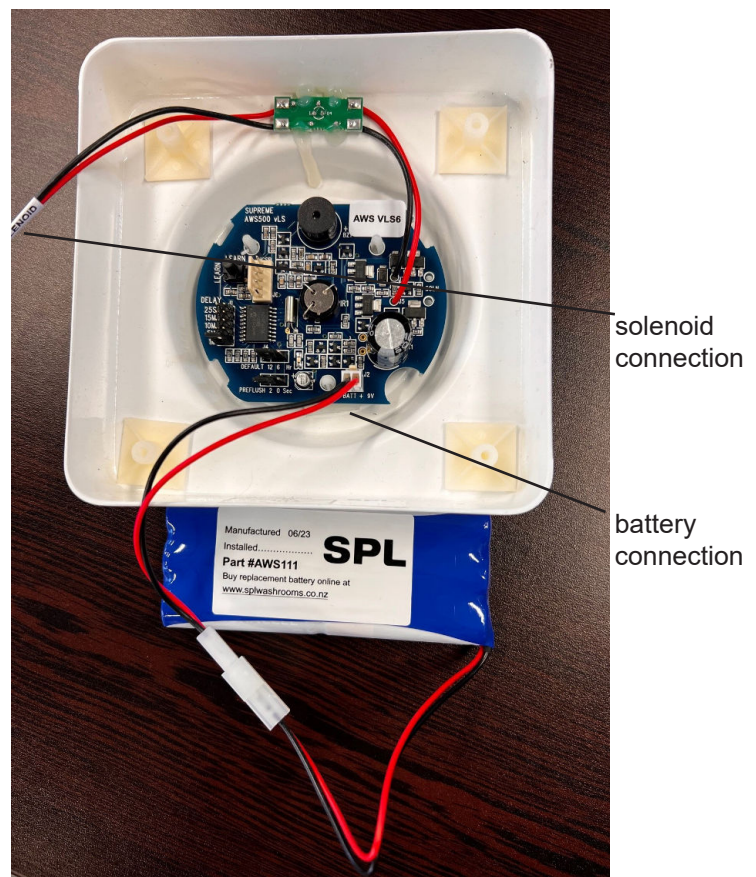

Fig 5. Battery connection connects to mains adapter if applicable
- 4. Connect the solenoid lead and battery to the printed circuit board (PCB) - Fig 5.